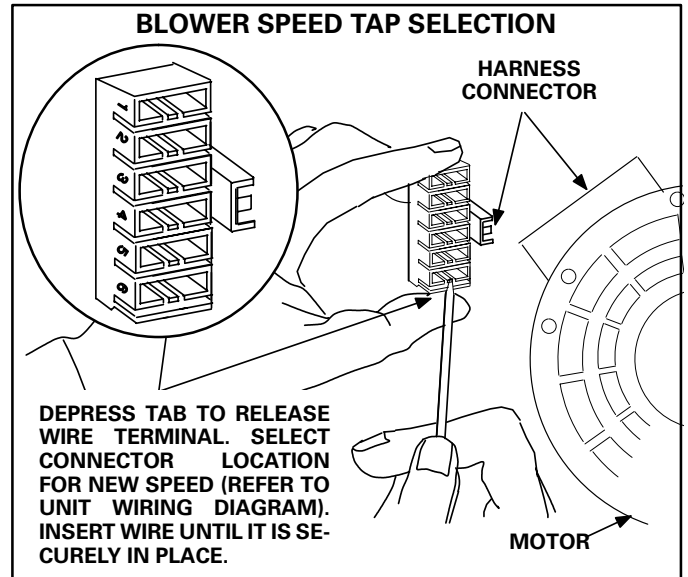

FIGURE 14
- 9 – Depress harness connector tab to release wire terminal. Select connector location for new speed (refer to unit wiring diagram). Insert wire terminal until it is securely in place. See figure 14.